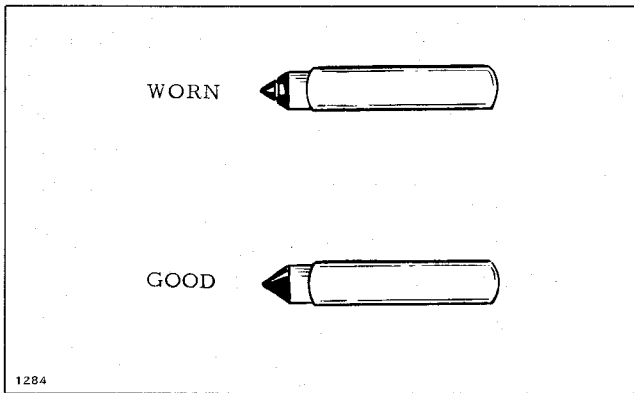

Figure 3-15. Needle Valve Condition
c. Inspect the tapered ends of the float valve needles for grooves, nicks, or scratches; if any are found, replace float valve assembly. See Figure 3-15. Gum or varnish on the needle must be removed with OMC Accessory Engine Cleaner. DO NOT attempt to alter the shape of needle valves or seats.